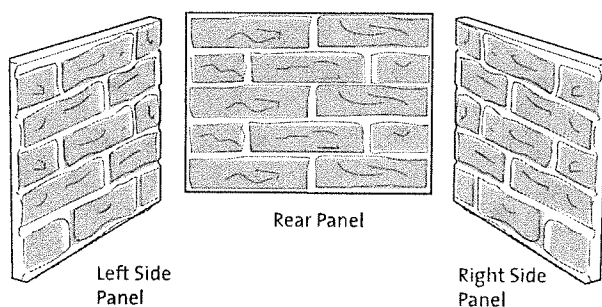
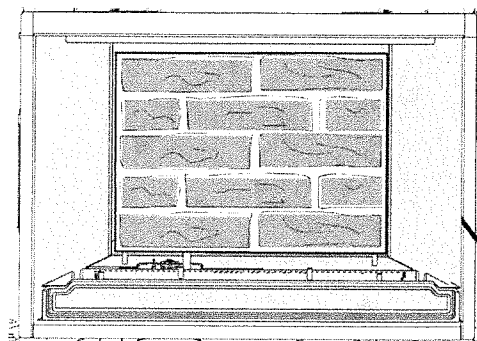

Figure 20. Align the Rear panel mortar joints with those in the side panels.
Figure 21. Install Rear Panel.
3. Install the Rear Panel. Orient the rear panel to align with the brick courses on the Side Panels as shown in fig. 20. Place the panel against the back wall of the firebox, resting on the log shelf as in fig. 21.